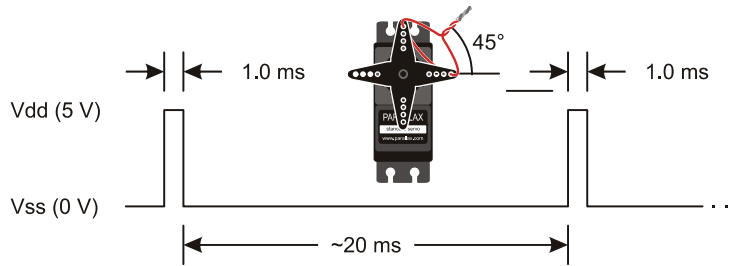

Figure 4-20
- ✓ Repeat this exercise for the timing diagram in Figure 4-20.